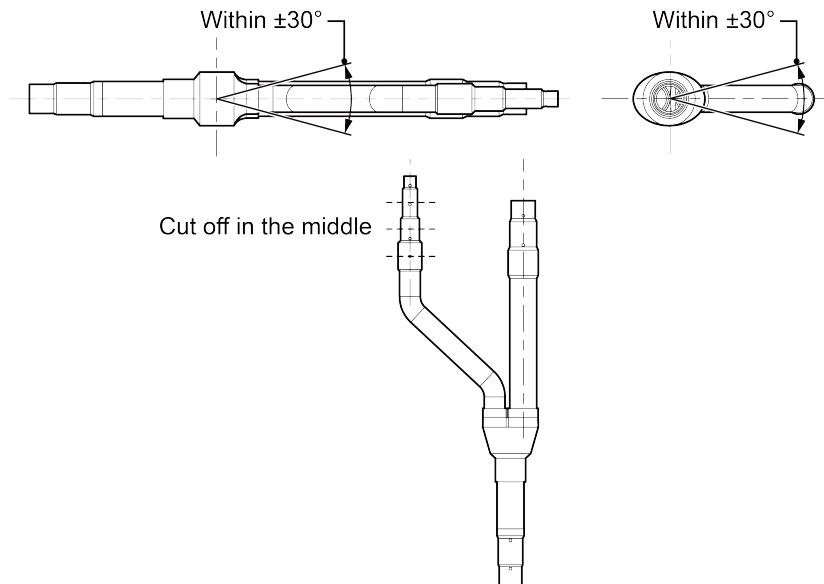

Fig. 17
- (2) Y-type branch has several pipe sections with different dimension, which facilitates to match with various copper pipes. Use pipe cutter to cut in the middle of the pipe section that is of proper dimension and remove burrs as well. See Fig.17.
- (3) Y-type branch must be installed vertically or horizontally.